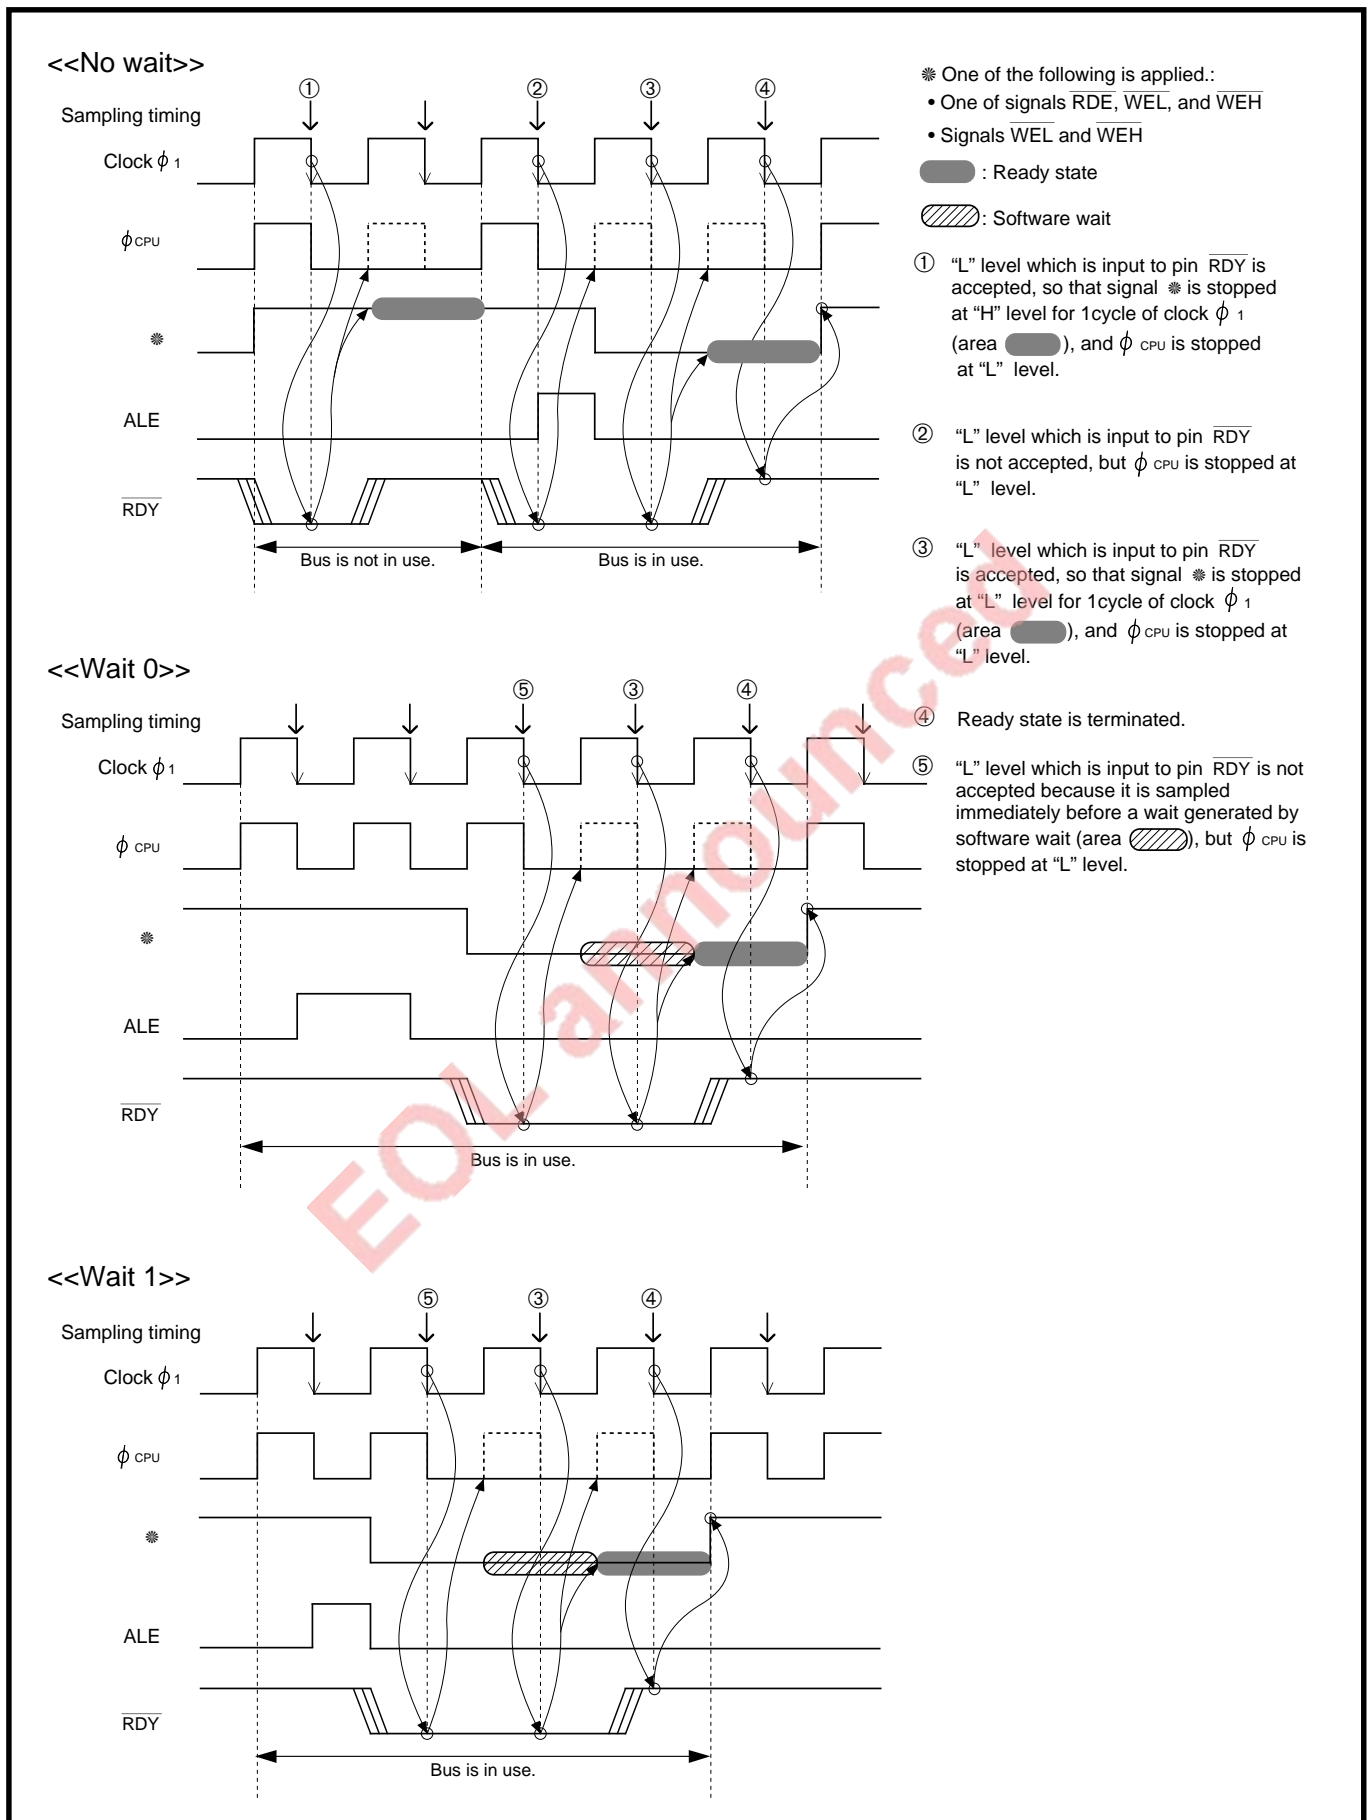

Fig. 12.3.2 Timings when ready state is accepted and terminated (when not using signal RSMP)
- When the levels of signals  $\overline{RDE}$ ,  $\overline{WEL}$ , and  $\overline{WEH}$  are “H” while the bus is in use (Refer to ② in **Figure 12.3.2.**)
- Immediately before a wait generated by the software wait (Refer to ⑤ in **Figure 12.3.2.**)
When “L” level is input to pin  $\overline{\text{RDY}}$ , this signal is accepted at the falling edge of clock  $\phi_1$  and the microcomputer enters the ready state. The ready state can be terminated by setting pin  $\overline{\text{RDY}}$ 's level to “H” again. When “H” level is input to pin  $\overline{\text{RDY}}$ , this signal is also accepted at the falling edge of clock  $\phi_1$  and the ready state is terminated. Figure 12.3.2 shows timings when the ready state is accepted and terminated.